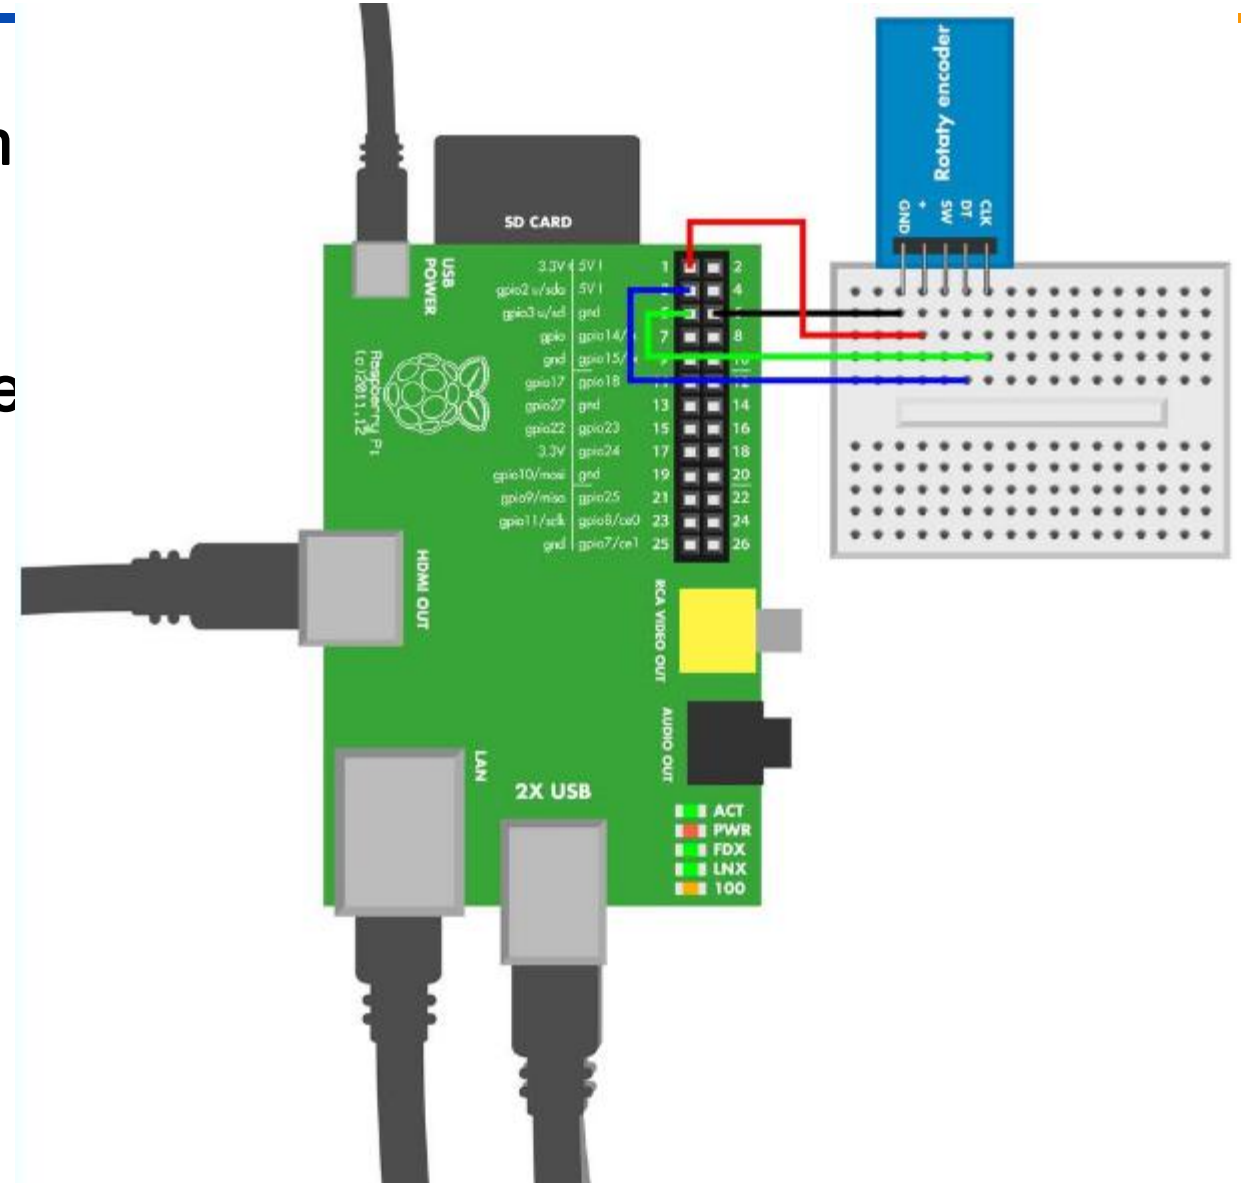

Figure 6-9. Rotary encoder circuit for Raspberry Pi
- Figure 6-9 shows the wiring diagram Raspberry Pi.